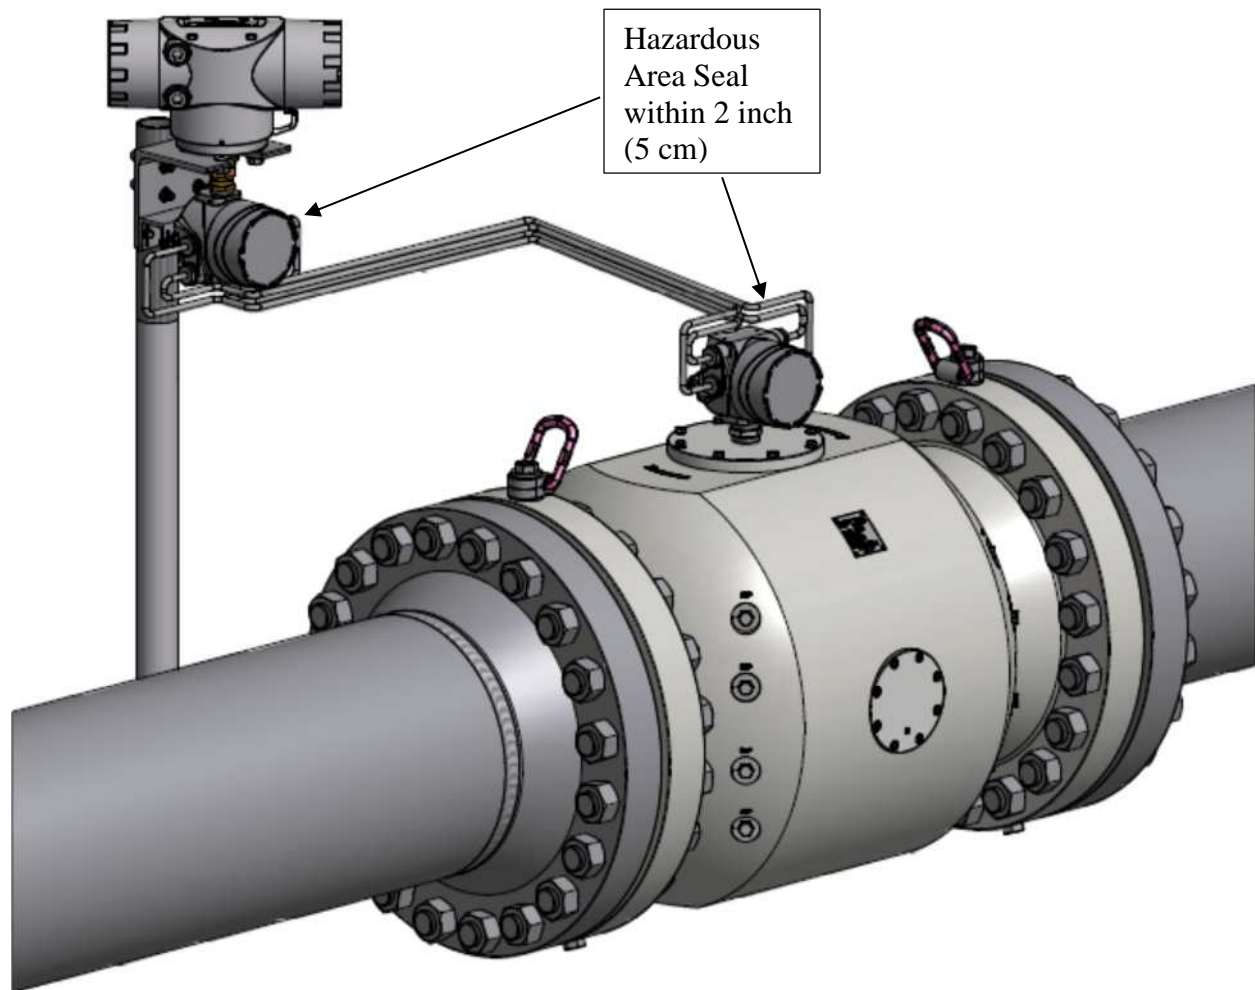
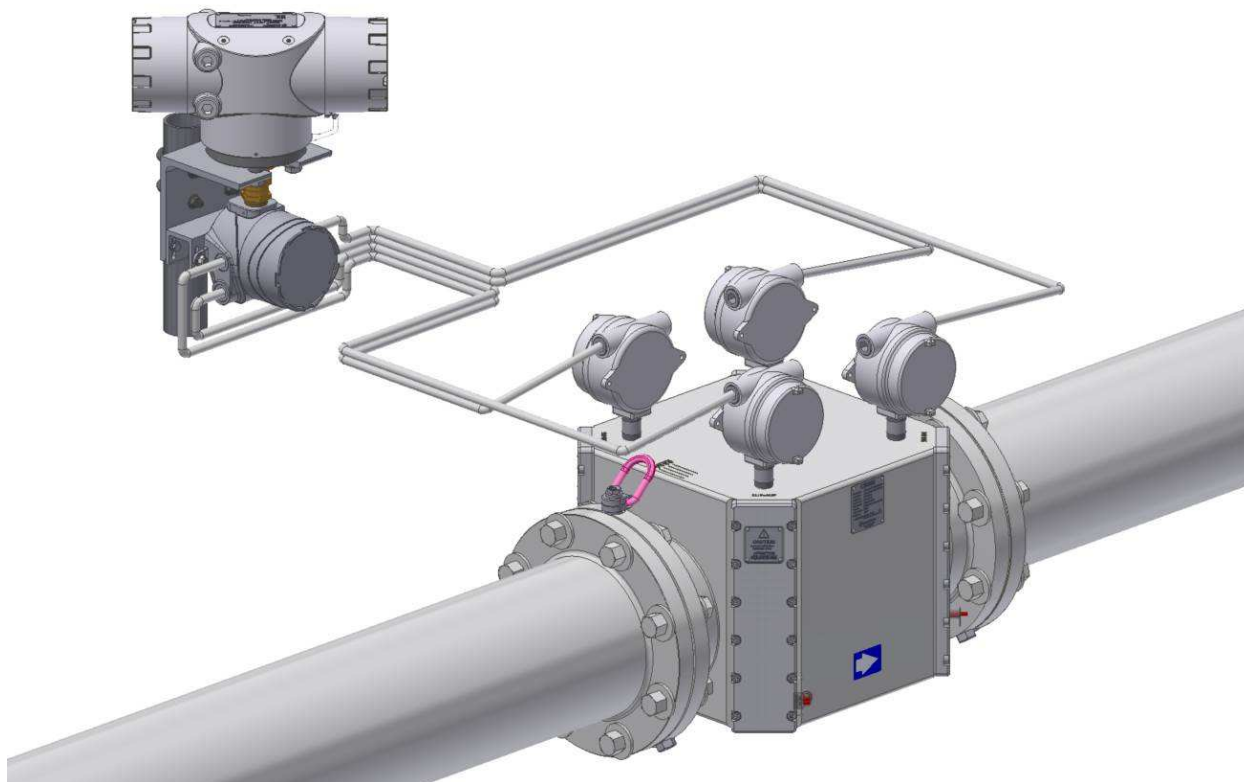

Figure 3-1 Remote Installation of Transmitter from Meter Body. NextGen meter body design shown with single junction box.
Figure 3-2 Remote Installation of Transmitter from Meter Body. Legacy meter body design shown with 4-junction box configuration.
This section describes the installation procedure for installing the transmitter separately from the meter body. Refer to Figure 3-1 for the remote mounted transmitter configuration. The transmitter may be mounted according to this section within 100 meters (~300 feet) of the meter body. For distances further than 100 meters, contact Sensia.
There are two junction box configurations for the remote mount connection to the meter body: 1) junction boxes mounted above each manifold (Figure 3-2) and 2) a single junction box mounted in the center of the meter (Figure 3-1).
- Single J-Box on meter configuration: Table 3-4. Refer to Figure 3-1 for meter body junction box location.